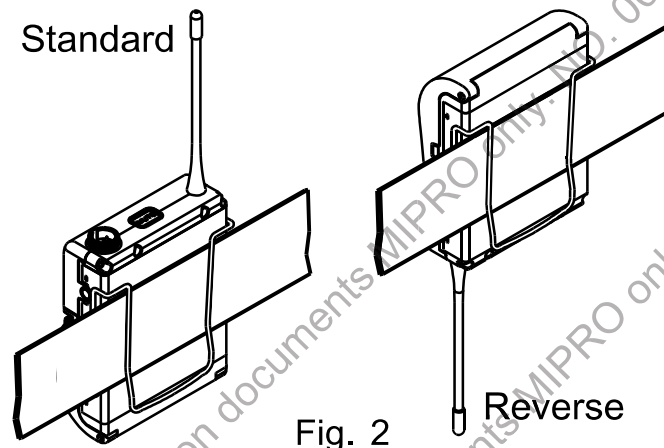

Fig. 2
- ❺ LCD Panel
- ❻ ACT Sync Window
- ❼ Power / MODE button
- ❽ MT / GT Switch
- ❾ SET Button
- ❿ Battery Holder
- 15 Belt Clip. Fig. 2